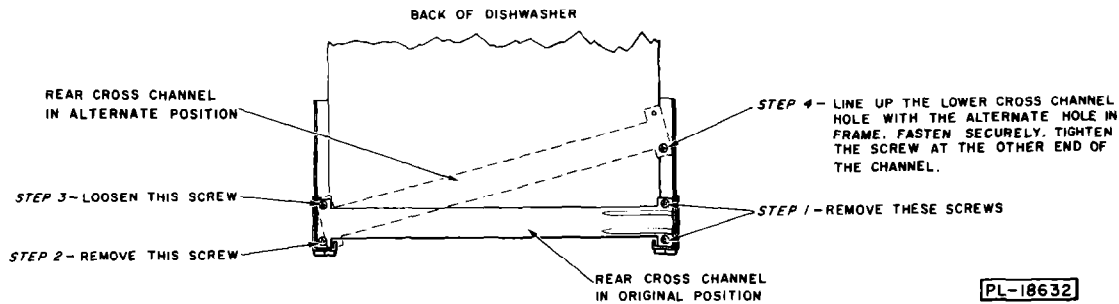

FIG. 3
**NOTE:** For corner installation, allow 2" clearance for adjacent cabinet. **CAUTION:** Make sure dishwasher is not installed under a surface burner or warming plate where the heat would damage the water supply tubing. If the rear cross channel interferes with the plumbing and/or electrical connections, it may be relocated as shown in Fig. 3 to create more clearance between the cross channel and the floor.